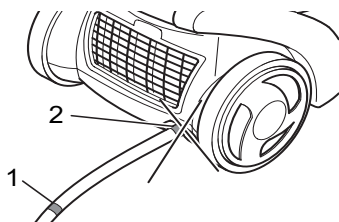

Fig. 10
2. Pull the cable holding the plug (Fig. 1/16) until the yellow mark (Fig. 10/1) is reached.
If the red mark (Fig. 10/2) is visible, then retract the cable again until it is no longer visible, ▷ *Chapter 3.2, "Switching off and retracting the power cable"*. Otherwise the cable can break off. There is a risk of electric shock.